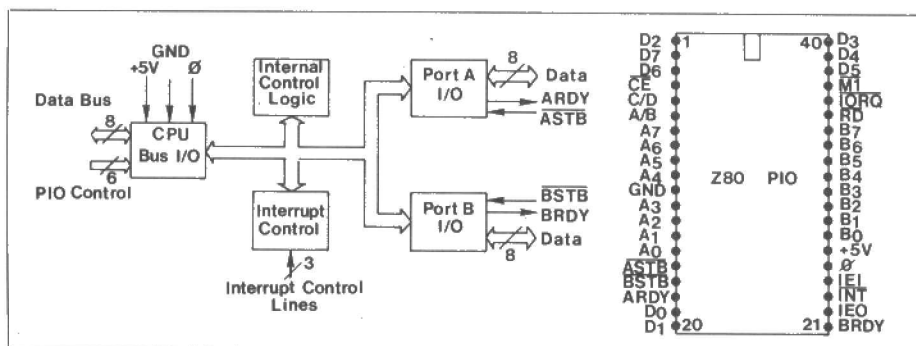

Figure 1. The Z80 PIO block diagram and pin-out.
This member of the Z80 family provides two 8-bit, TTL compatible, parallel input-output ports that are capable of being controlled by software so as to be configured in various ways. Interrupt logic is also included. Figure 1 shows both the pin-out for this chip and its block diagram. The ports are known as Port A and Port B and there are four modes in which they can operate. Data transfers between the CPU and the PIO make use of separate input and output registers, known collectively for programming purposes as the Data Register (DR); the control registers associated with each port are also known collectively to the programmer as the Control Register (CR). The PIO operating modes are: